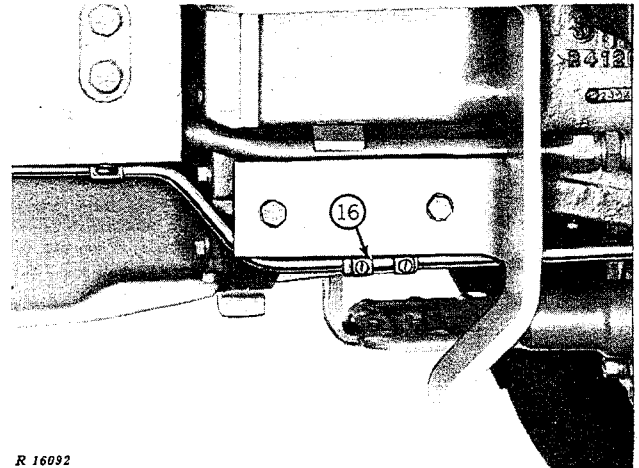

Fig. 6—Power Front Wheel Drive Drain Pipe
16. Disconnect Power Front Wheel Drive drain pipe (Fig. 6).